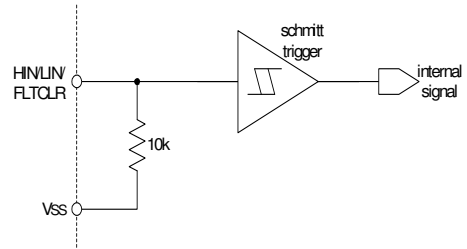

Figure 2: HIN, LIN and FLTCLR Diagram
**Pins:  $HIN$ ,  $LIN$ ,  $FLTCLR$ ,  $FAULT/SD$ ,  $SY\_FLT$  (refer to Fig. 2, 3)**